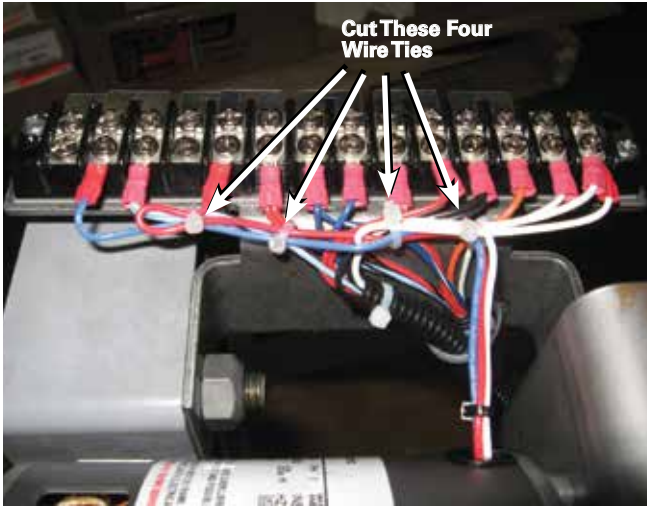

Figure 106. Removal of wire ties.
- Remove the VR reversing stationary contact from the contact assembly panel. See Figure 106.
3. Use diagonal cutters to cut the four wire ties from the motor wires. Refer to Figure 106.